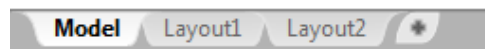

Figure Step 5
Step 5 Check to ensure that the tab Model is enabled. It is located on the bottom left corner of the Graphic window. If it is not enabled, click it with the left mouse button. (Figure Step 5)